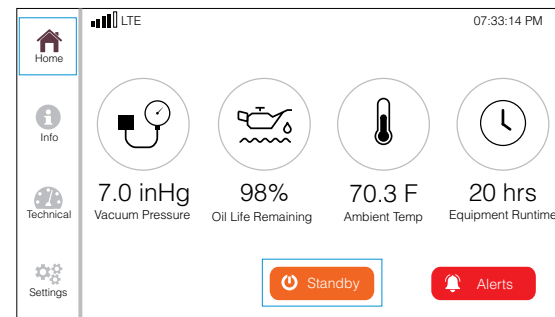

FIGURE 54. PRESS STANDBY
12. On the Home screen, press **STANDBY** to turn the system back ON (FIGURE 54).